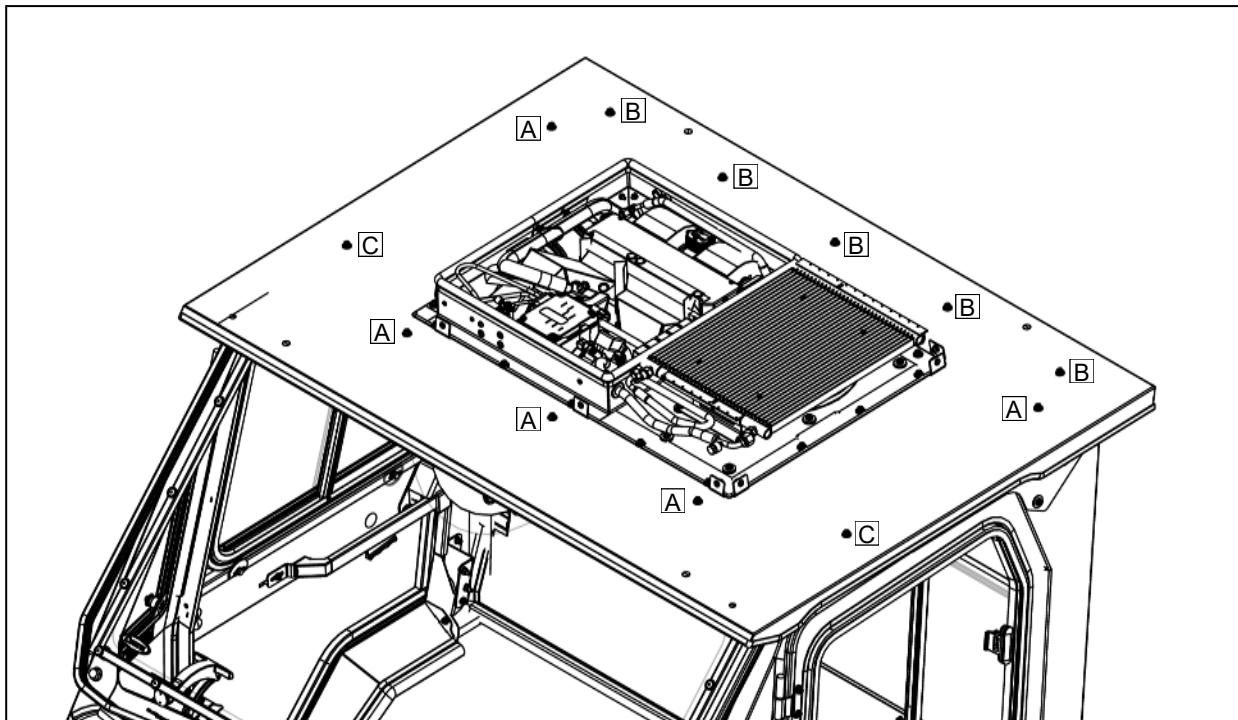

Fig. 9.2 Roof Fasteners
9.2 Secure the Roof to the ROPS and cab components with 1/4-20 x 3/4" screws, nylon washers, 1/4-20 nuts. The Nylon washers shall be on top of the roof. See location A in figure 9.2. Do not fully tighten.
9.3 Secure the Roof to the Upper Rear Panel with 1/4-20 x 3/4" screws, nylon washers, steel washers, rubber washers, and 1/4-20 nuts. The Nylon washers shall be on top of the roof, the rubber washer shall be in contact with the polycarbonate of the Upper Rear Panel, and the steel washer outside of the rubber washer. See location B in figure 9.2. Do not fully tighten.
9.4 Secure the Roof to the Headers with 1/4-20 x 2-1/2" screws, nylon washers, and 1/4-20 nuts. The nylon washers shall be on top of the roof. See location C in figure 9.2. Do not fully tighten.